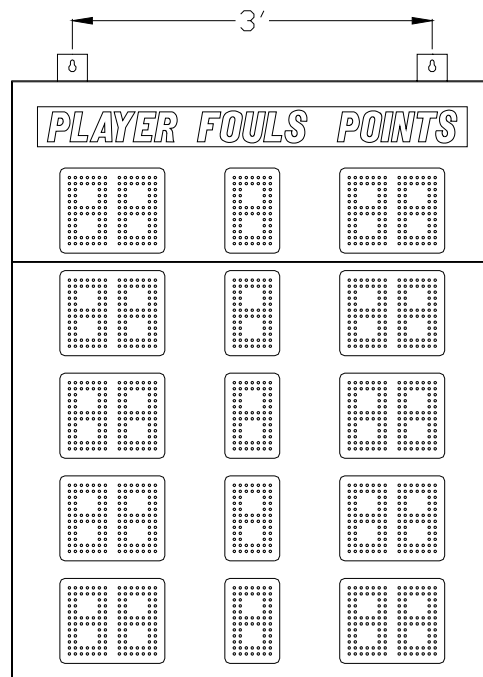

Figure 2 Model 2057 Player Statistics Panel Mounting Points
3. Insert lag bolts or other suitable fasteners through the hanger brackets and fasten the model 2057 player statistics panel to the wall. Figure 2 shows the mounting point locations on the cabinet.